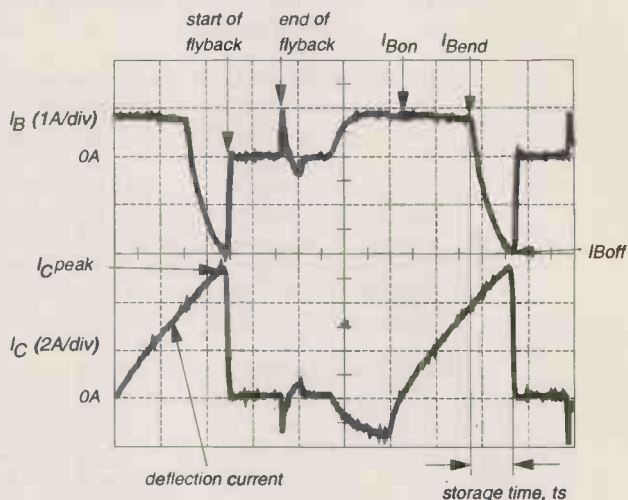

Fig. 6. Characteristics of the horizontal deflection transistor's collector and base-current waveforms after base-current optimisation.
- Observe I_C and I_B waveforms, see Fig. 6. The I_B waveform should be essentially flat during the on-state with a linear slope to $-I_{Boff}$.